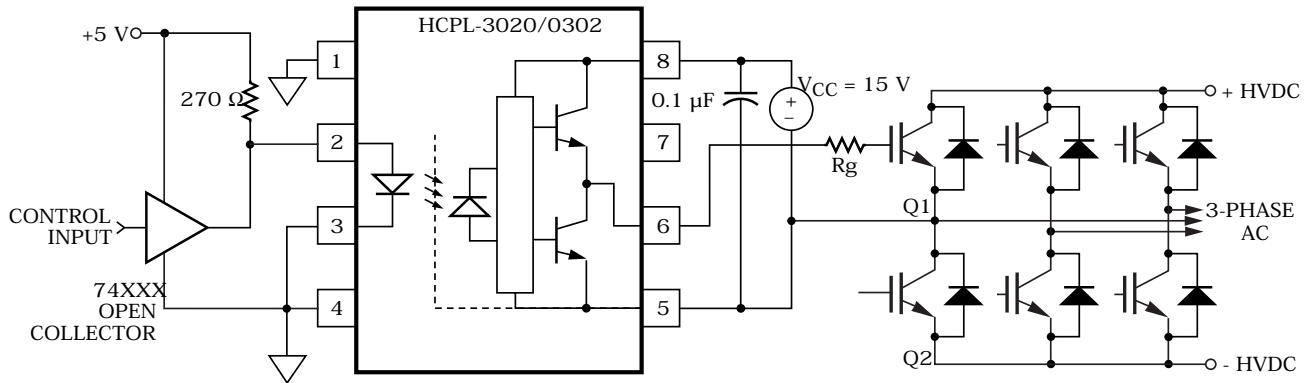
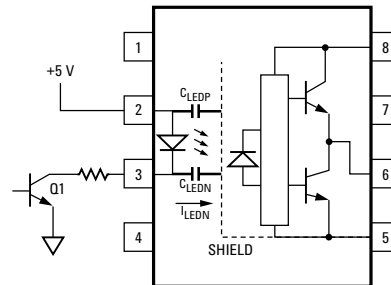

Figure 17. Recommended LED drive and application circuit for HCPL-3020 and HCPL-0302.
Figure 22. Not recommended open collector drive circuit.
To keep the IGBT firmly off, the HCPL-3020 and HCPL-0302 have a very low maximum V_{OL} specification of 1.0 V. Minimizing R_g and the lead inductance from the HCPL-3020 or HCPL-0302 to the IGBT gate and emitter (possibly by mounting the HCPL-3020 or HCPL-0302 on a small PC board directly above the IGBT) can eliminate the need for negative IGBT gate drive in many applications as shown in Figure 17. Care should be taken with such a PC board design to avoid routing the IGBT collector or emitter traces close to the HCPL-3020 or HCPL-0302 input as this can result in unwanted coupling of transient signals into the input of HCPL-3020 or HCPL-0302 and degrade performance. (If the IGBT drain must be routed near the HCPL-3020 or HCPL-0302 input, then the LED should be reverse biased when in the off state, to prevent the transient signals coupled from the IGBT drain from turning on the HCPL-3020 or HCPL-0302.
Step 1: Calculate R_g minimum from the I_{OL} peak specification. The IGBT and R_g in Figure 17 can be analyzed as a simple RC circuit with a voltage supplied by the HCPL-3020.
where $K_{I_{CC}} \cdot Q_g \cdot f$ is the increase in I_{CC} due to switching and K_{I_{CC}} is a constant of 0.001 mA/(nC*kHz). For the circuit in Figure 17 with I_F (worst case) = 10 mA, R_g = 57.5 Ω, Max Duty Cycle = 80%, Q_g = 100 nC, f = 20 kHz and T_{AMAX} = 85°C:
perturbations in the LED current during common mode transients and becomes the major source of CMR failures for a shielded optocoupler. The main design objective of a high CMR LED drive circuit becomes keeping the LED in the proper state (on or off) during common mode transients. For example, the recommended application circuit (Figure 17), can achieve $10 \text{ kV}/\mu\text{s}$ CMR while minimizing the component complexity.
The open collector drive circuit, shown in Figure 22, cannot keep the LED off during a $+dV_{CM}/dt$ transient, since all the current flowing through C_{LEDN} must be supplied by the LED, and it is not recommended for applications requiring ultra high CMR₁ performance. The alternative drive circuit, which like the recommended application circuit (Figure 17), does achieve ultra high CMR performance by shunting the LED in the off state.